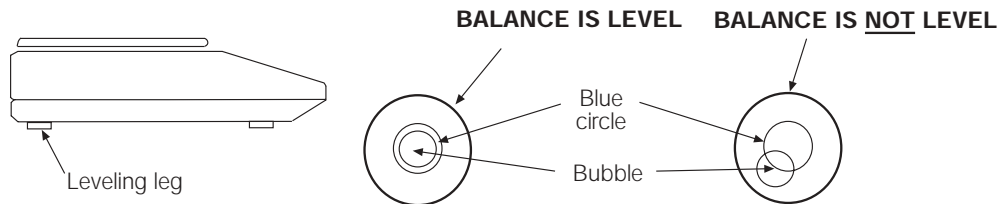

Figure 1-2. Level Adjustment
3. Using the bubble level to the upper left of the display panel as a guide, adjust the leveling legs as necessary until the bubble is centered inside the bulls-eye of the bubble level (see Figure 1-2).